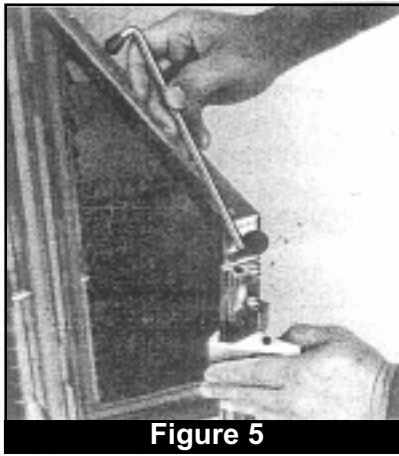

Figure 5
1. Replace door latches (Fig.5):